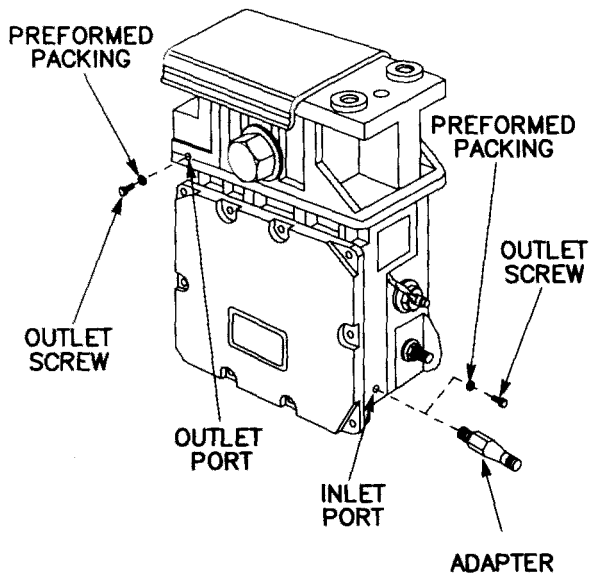

Figure 3-41 Laser Rangefinder Electronics Cavity
(2) Electronic Cavity (fig. 3-41).